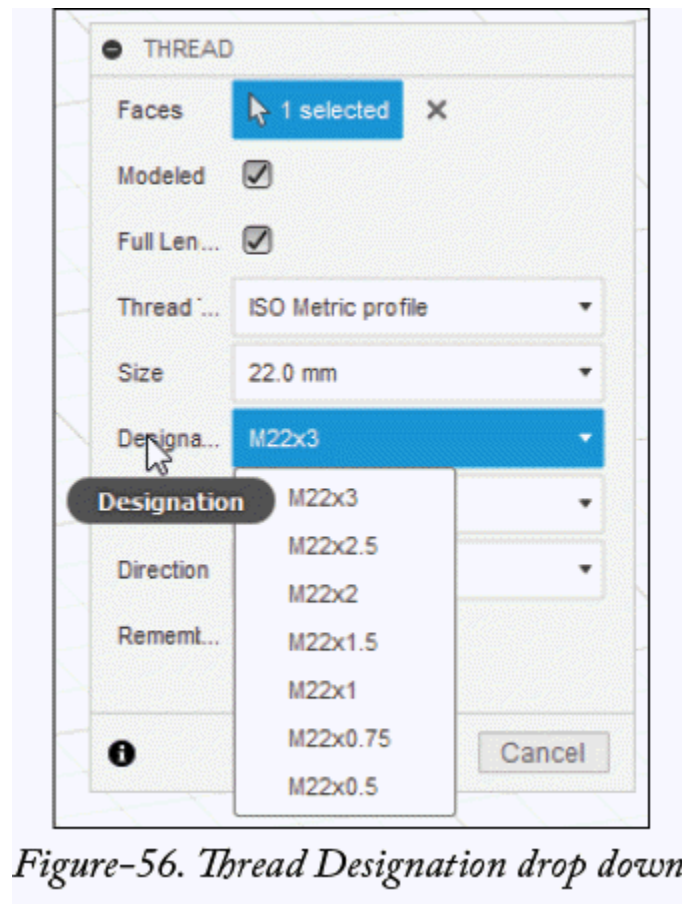

Figure-56. Thread Designation drop down
- Click on the **Designation** drop-down and select the designation of thread; refer to Figure-56.